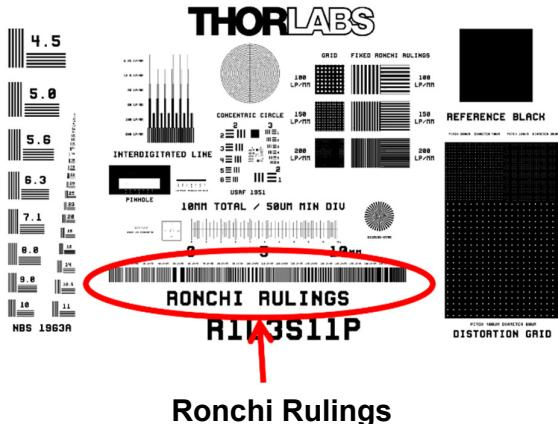

Figure 4: Ronchi ruling placement. The line spacings are printed on the target just above each set of lines.
26. Focus on the most closely spaced set of lines (200 lp/mm, on the right in Fig. 4). Set up for proper imaging of the sample; make sure while you are focusing that you have a line profile window open for the sample (mono) camera, and that you are using all of the camera dynamic range (i.e. the line profile is near the maximum value – but not saturating! – when it hits a light area).
28. Now shift the sample to image the most widely spaced set of lines (on the left in Fig. 4). If your focus was good before, it is probably best to leave it alone. Set up for proper exposure so you are using all of the camera dynamic range (i.e. the line profile is near the top when it hits a light area).